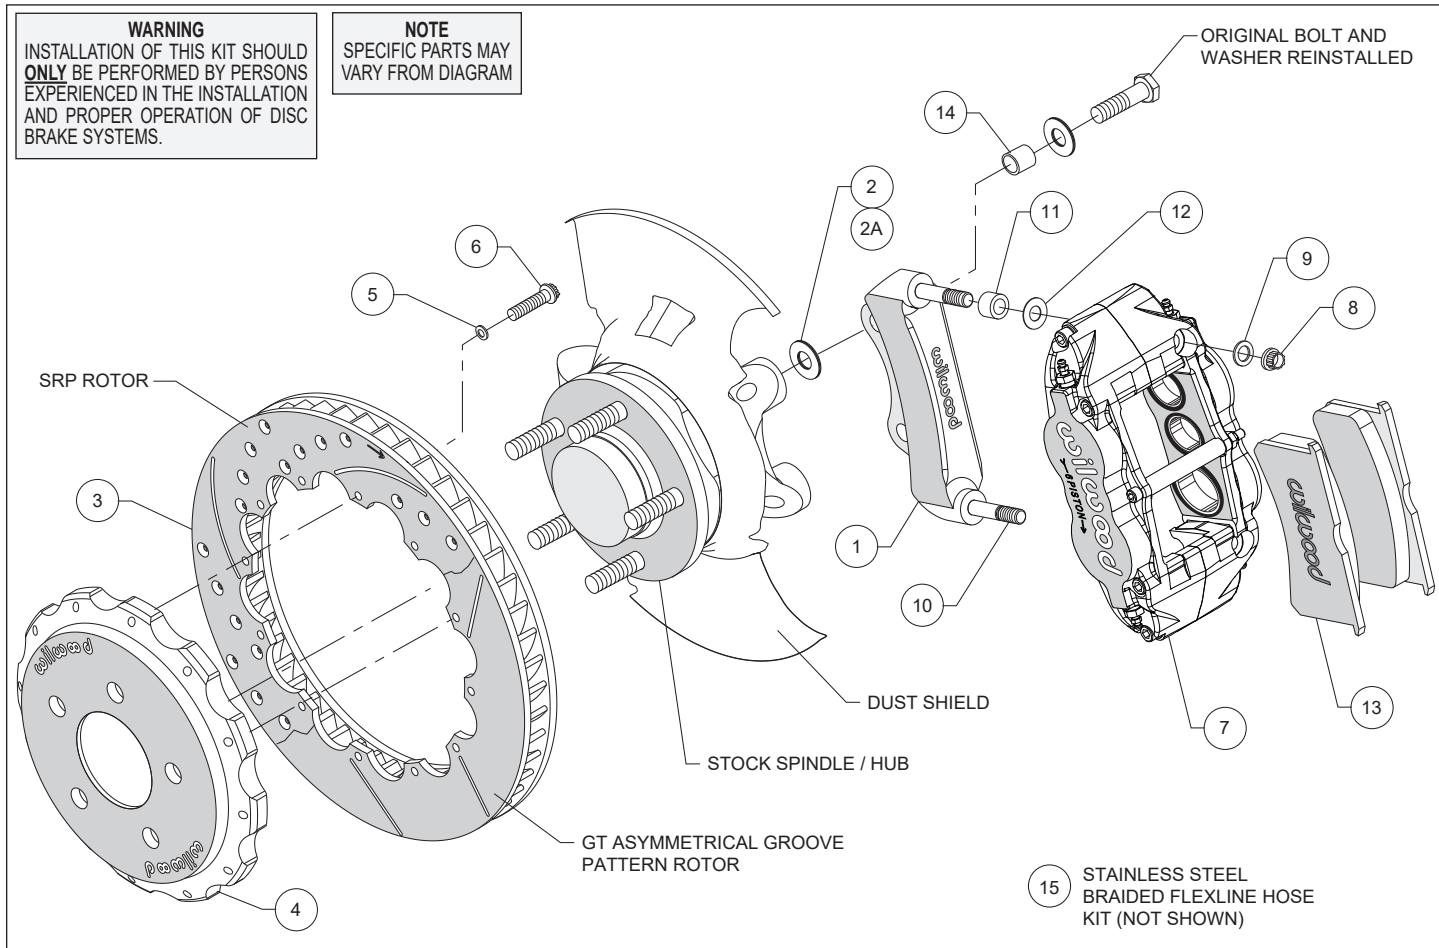
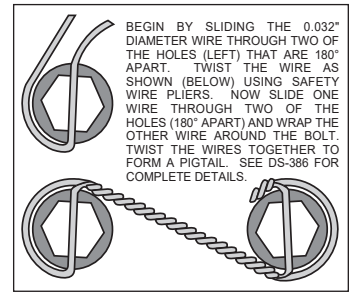

Figure 1. Typical Installation Configuration
Figure 3. Safety Wire Diagram
Assembly Instructions (numbers in parenthesis refer to the parts list/diagram on the preceding page, and Figure 1):
- The caliper mounting bracket assembly (1) should be installed first with clean, dry threads on the mounting bolts. Install the bracket from the rear side of the spindle by sliding the original stock bolts through washer, sleeve (14) (sleeve only utilized on 2004 model year), and bracket (1). Place shim washer (2 or 2A for 2004 model year) between the bracket (1) and the spindle (see Figure 1). The bracket must tighten squarely
- Orient the rotor (3) and the hat (4) as shown in Figure 1 and Photo 1. Attach rotor to hat using bolts (6) and washers (5). Using an alternating sequence, apply red *Loctite*® 271 to the threads and torque bolts to 155 **in-lb**. For an added measure of security, the bolts may be safety wired using standard 0.032 inch diameter stainless steel safety wire as shown in Figure 3. Please refer to Wilwood's data sheet DS-386 (available at www.wilwood.com/Pdf/DataSheets/ds386.pdf) for complete safety wire installation instructions.
- **NOTE:** This kit contains distinct right and left hand calipers that must be mounted in a specific direction, as described below. Lubricate the caliper mounting studs (10) with lightweight oil. Initially place one .035" thick shim (12) and one spacer (11) on each stud as shown in Figure 1, and Photo 2. Mount the caliper (7) onto the bracket (1) using lock nuts (8) and washers (9), Figure 1. Ensure that the caliper is mounted so that the largest pistons are at the rotor exit end of the caliper, in relation to the direction of rotor rotation. Temporarily tighten the lock nuts and view the rotor through the top opening of the caliper. The rotor should be centered in the caliper, Photo 3. If not, adjust by adding or subtracting shims (2 and/or 2A) between the bracket and the upright. Always use the same amount of shims on each of the two mounting bolts. Once the caliper alignment is correct, remove the bracket mounting bolts one at a time, apply red *Loctite*® 271 to the threads, and torque to manufacturer's specifications.